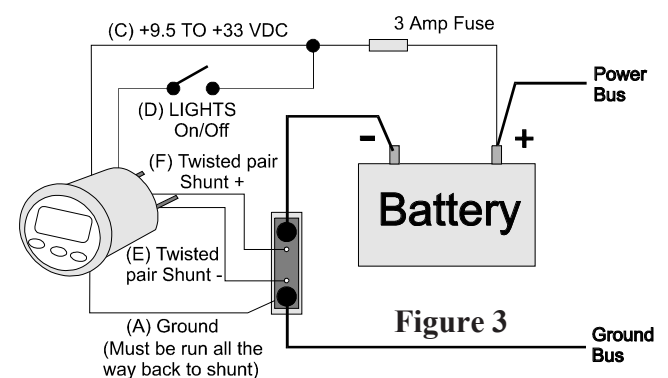
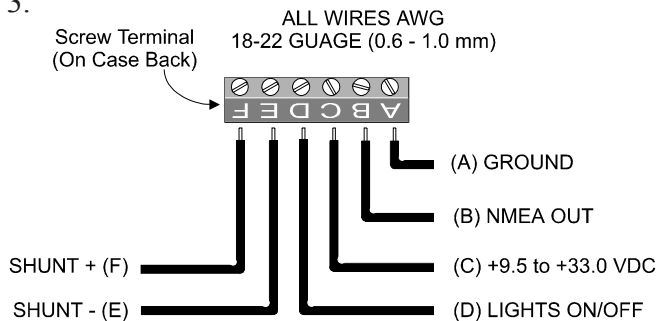

Figure 3
Figure 2
● Carefully check all your wiring against those shown in Figures 2 and 3. **Ground wire (A) must run all the way back to the shunt - do not share this wire with any other signal.** Be sure the bulkhead gasket is in place and use only finger tension to tighten the bracket hold-down nuts **Do not overtighten the bracket or you may damage the case - you do not need to use tools to tighten the nuts.**
- Bring the shunt wires, ground, and power lines out of the mounting hole and use a small flat screwdriver to make the connections to the screw terminal on the instrument case back as shown in Figure 2 and Figure 3.